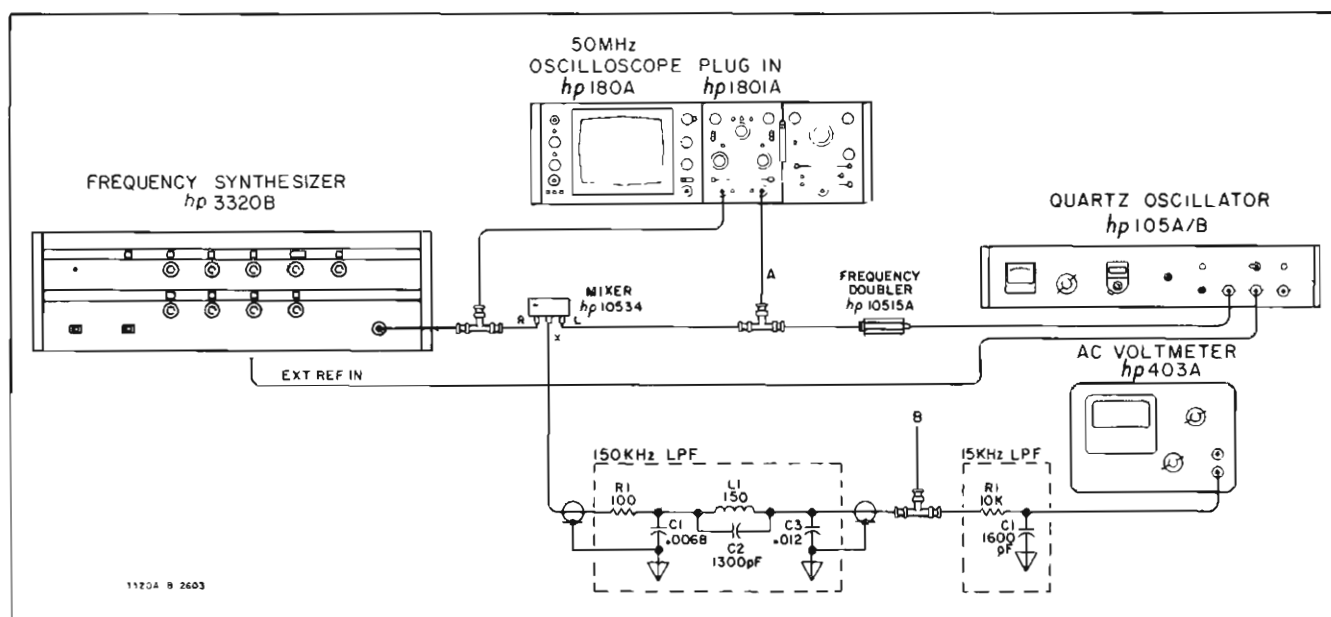

Figure 5-4. Signal to Phase Noise.
| Low Pass Filter | Frequency: 150 kHz | See Figure 5-4 |
b. Connect the equipment as shown in Figure 5-4.
g. Disconnect Channel B of the oscilloscope from point A (Figure 5-4) and connect to point B.